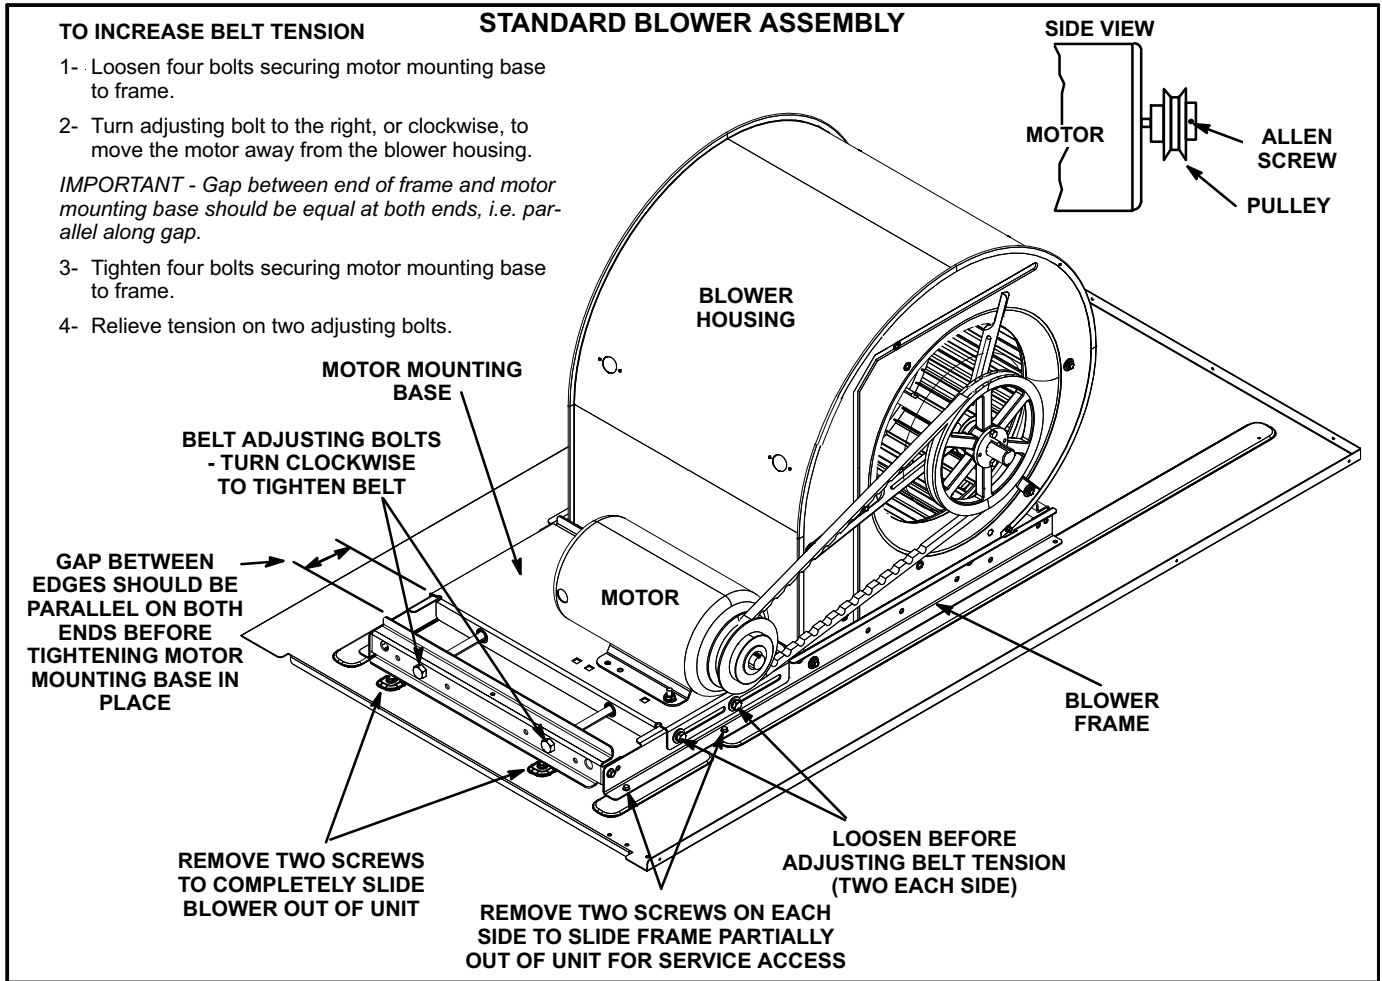

FIGURE 14
The blower assembly is secured to a sliding frame which allows the blower motor to be pulled out of the unit. See figure 14.
4- The blower RPM can be adjusted at the motor pulley. Loosen Allen screw and turn adjustable pulley clockwise to increase CFM. Turn counterclockwise to decrease CFM. See figure 14. Do not exceed minimum and maximum number of pulley turns as shown in table 2.
- 1- Loosen four bolts securing motor base to mounting frame. See figure 14.